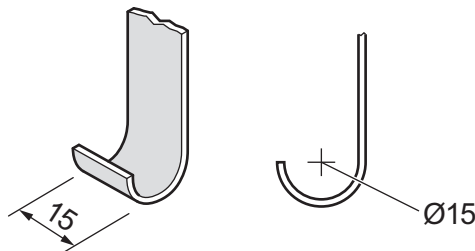

Fig. 12.3
- (b) Fig. 12.3 shows details of the bend that needs to be made to the legs.